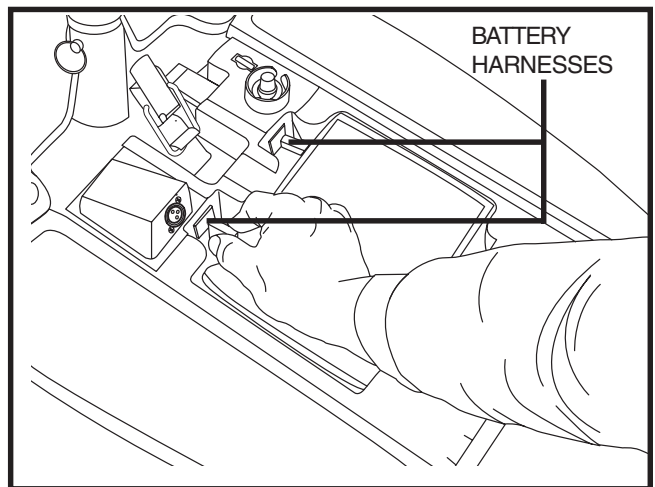

Figure 13. Battery Harness Removal
2. Disconnect the battery harnesses. See figure 13.